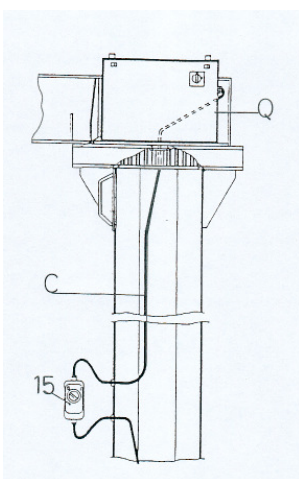

fig.45
1. Connect the cable **C** to the terminal box of the electrical control panel **Q** inserting it through the hole of the rotation plate of the arm. (fig.45)